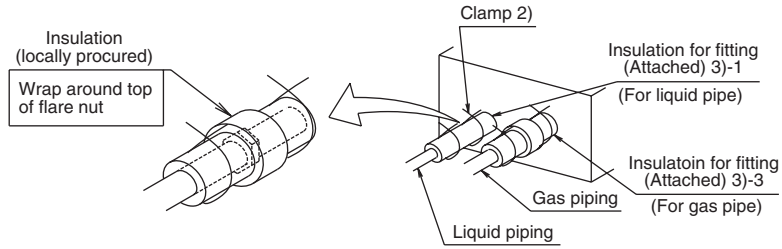

Fig. 4
- Piping connections should be checked for gas leaks and then, referring to Fig. 4, insulated using the included joint insulating material 3) on all liquid and gas pipes (a total of 5 locations) (Tighten both edges with clamp 2.) Use the included joint insulating material.
- (1) construction material: Phosphoric acid deoxidized seamless copper for refrigerant.
- (2) size: Determine the proper size referring to chapter “SELECTION OF PIPE CONNECTION SIZE”
- (3) The wall thickness of the refrigerant piping should comply with relevant local and national regulations.